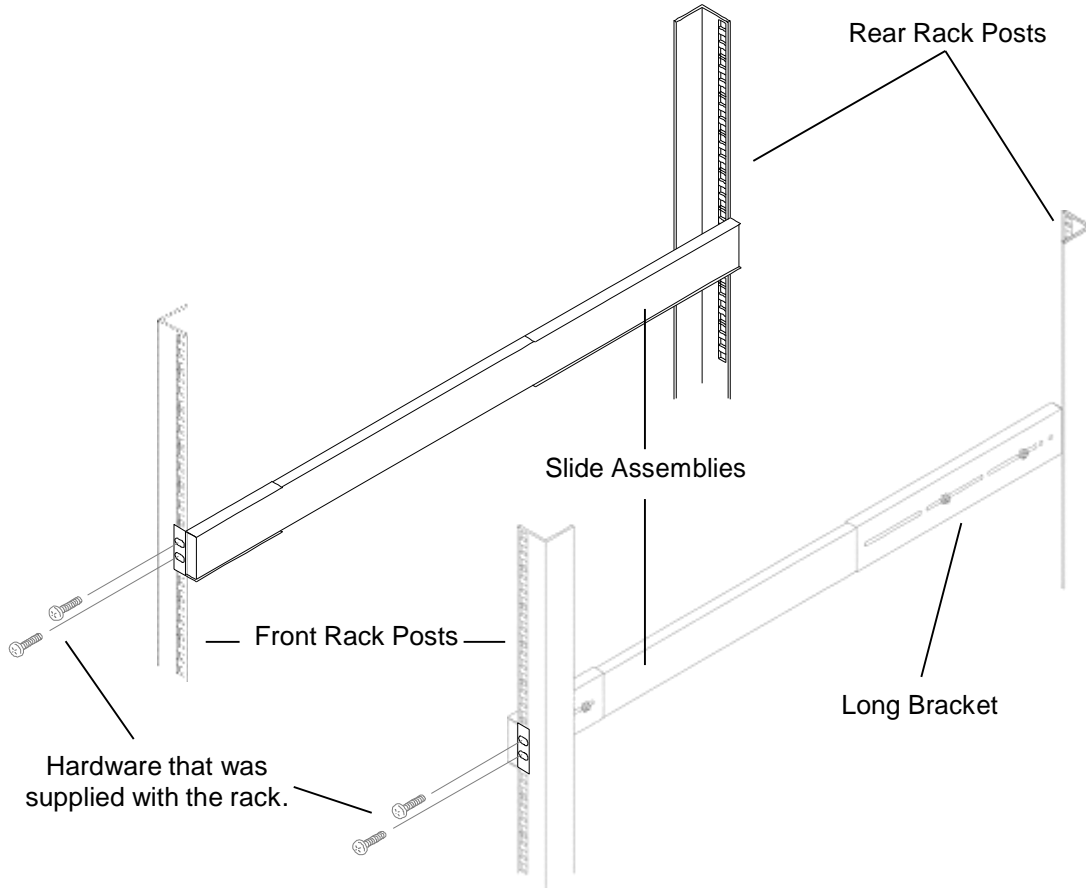

Figure 5-11 Slide Assemblies Being Attached to the Front and Rear Rack Posts
5. Position a slide assembly between the front and rear slides so that the brackets are touching the inside of the slides and the holes in its brackets align with the mounting positions chosen in Step 1. Make sure that the mounting bracket tabs are facing towards the outside of the rack and that the long bracket is at the rear of the rack. Refer to Figure 5-11.